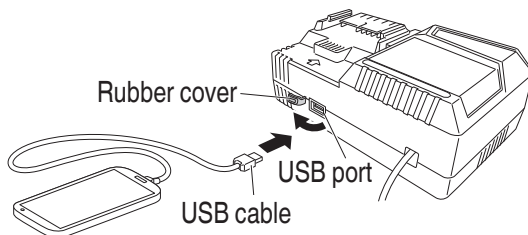

Fig. 17
- (2) Connect the USB cable. (Fig. 17)